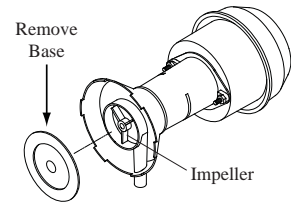

Fig. 10
- **Cleaning pump.** Cleaning the pump is necessary once a year at start-up. For your safety, disconnect from power source and unplug pump. Remove the pump from the mount bracket. Remove the base of the pump (Fig. 10). Clean the pump and turn the impeller to ensure free operation. Remove the pump spout and check for any blockage. After cleaning, reinstall the base onto the pump. Reattach the pump to the mount in the cooler to ensure that the pump will not overturn. Do not forget to replace the spout and water delivery tube onto the pump outlet. The pump has automatic reset thermal protection. Pump will operate normal again after obstruction is cleared.